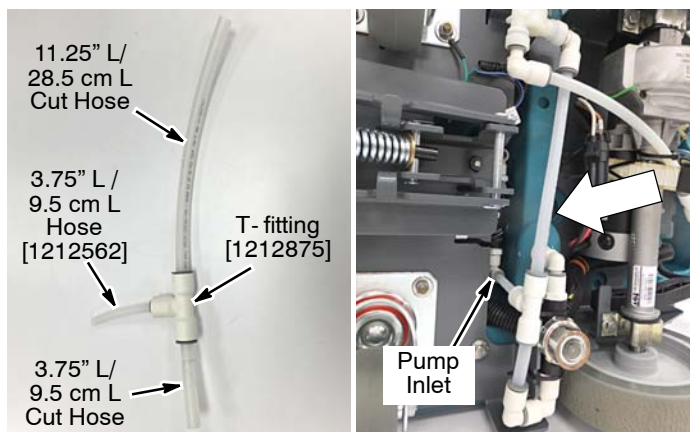

Fig. 20
8. Using the removed hose from Step 3, cut the hose into two hose lengths (11.25"/28.5 cm and 3.75"/ 9.5 cm). Assemble hoses with kit hose and T- fitting as shown. Connect the hose assembly to solution system as shown (Figure 20).